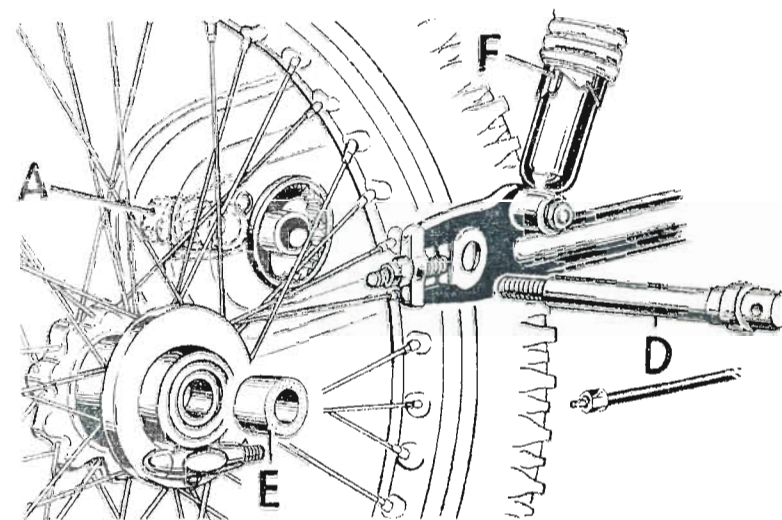

Fig. 21. Removal of the rear wheel.
Removal of the rear wheel does not affect the chain or brake adjustment. Disconnect the speedometer driving cable at the hub and unscrew the spindle (D) Fig. 21, from the right-hand side. It has a normal right-hand thread and therefore unscrews in an anti-clockwise direction. It is also drilled to accept a tommybar to facilitate withdrawal. The spacing sleeve (E) between the speedometer drive and the fork end can then be removed and the wheel pulled away from the brake drum and withdrawn from the machine. When detaching the rear wheel it is unnecessary to touch the hexagon nut (A) on the left-hand side, as this retains the brake drum assembly in position.
The load on the springs can be varied by means of a three-position cam adjuster (F) Fig. 21, at the lower end of the unit and the springs can therefore be adjusted to suit the load conditions or nature of the ground. A suitable spanner for this adjustment is provided in the toolkit.